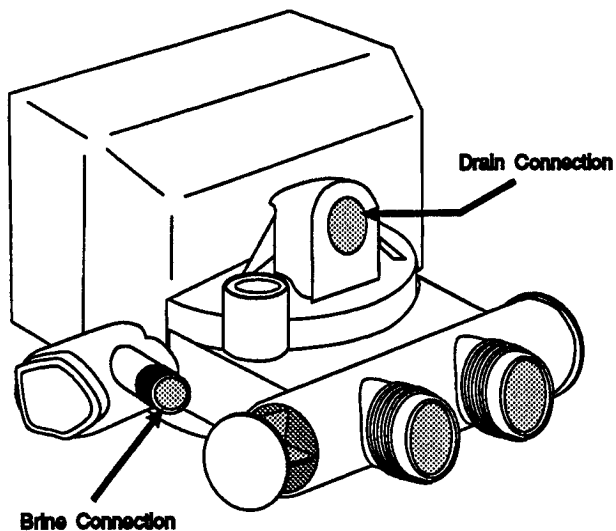

Fig. 4
- Locate the brine connection on the right side of the valve body (Fig. 4). Wrap the threads with thread sealing tape.
Refer to Table 1, page 8, for drain line length and height limitations, and to Fig 4.